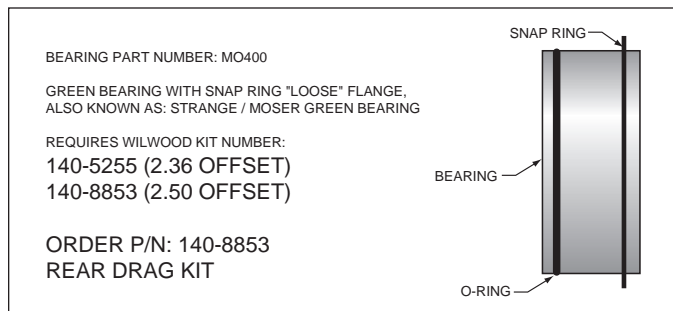

Figure 2. Loose Fit Retainer Bearing Configuration
- It is important to verify which bearing you have. There are two types of “Green Bearings” being supplied by axle manufacturers, each one requires a specific Wilwood rear disc brake kit for proper installation. Your setup should look like Figure 2, otherwise you have the wrong kit.